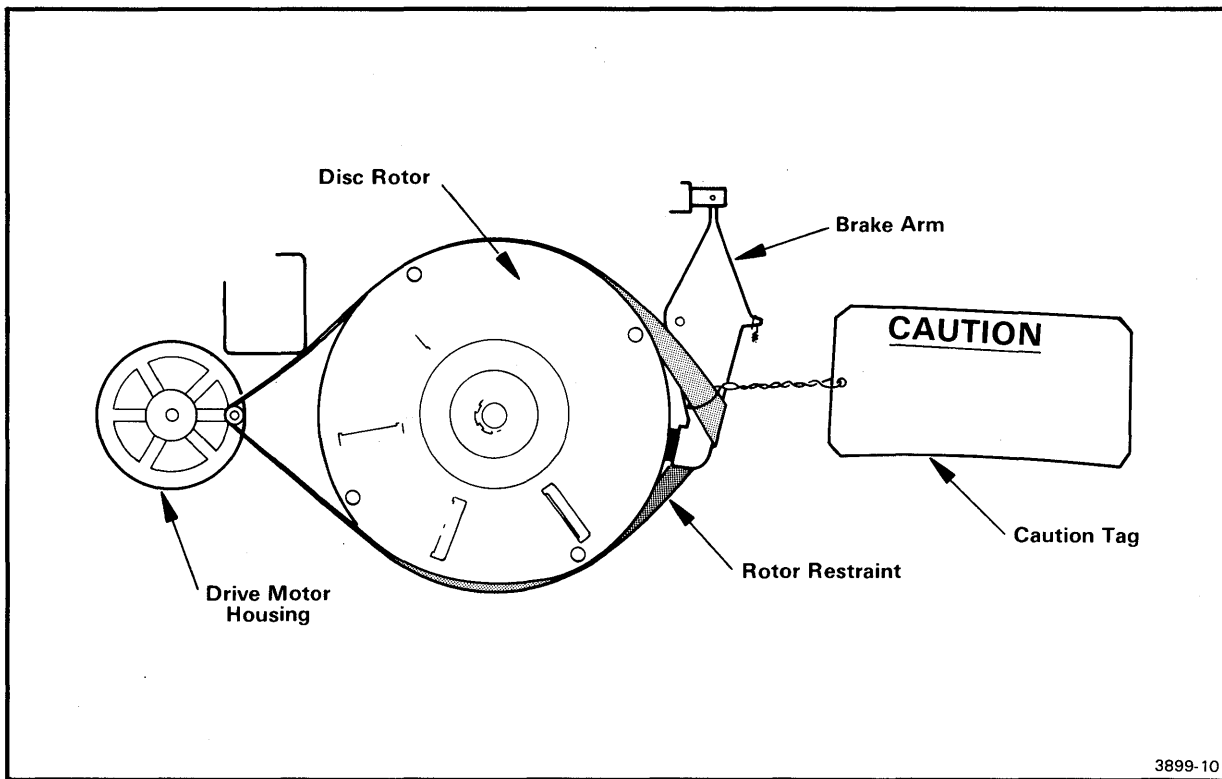

Fig. 18-7. Hard-disc drive rotor shipping restraint.
3. Carefully untwist the tie wire and remove the caution tag from the disc brake arm (see Fig. 18-7).